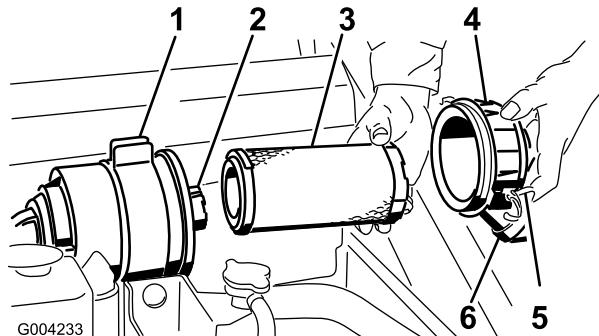

Figure 33
3. Release the latches on the air cleaner and pull the air cleaner cover off of the air cleaner body (Figure 33).
6. Gently slide the primary filter out of the air cleaner body (Figure 33). Avoid knocking the filter into the side of the body.
9. If you are replacing the safety filter, carefully slide the new filter into the filter body (Figure 33).
10. Carefully slide the primary filter over the safety filter (Figure 33). Ensure that it is fully seated by pushing on the outer rim of the filter while installing it.
11. Install the air cleaner cover with the side indicated as UP facing up and secure the latches (Figure 33).